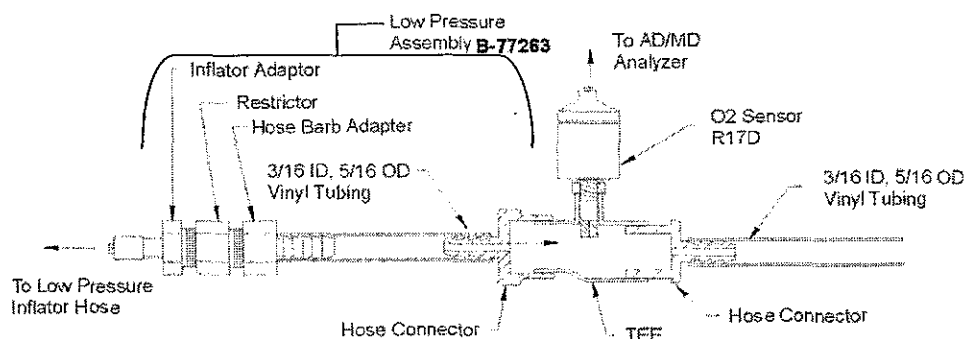

Figure 2-10: Low Pressure Gas Sampling
- From the low pressure inflator hose using the sample adapter as shown in Figure 2-10.
INFLATOR HOSE SAMPLING. Connect the inflator hose adapter supplied with the unit to the tee adapter as shown in Figure 2.10. Open the gas bottle valve and allow gas to flow for approximately 30 seconds. When a stable reading is observed close the cylinder valve. Allow reading to settle for a few seconds. This is the oxygen value of the sample gas.